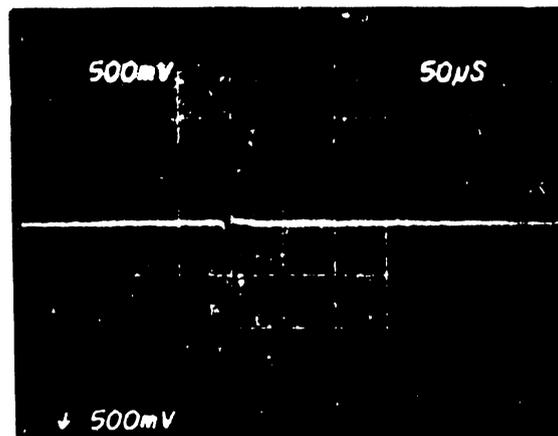

Figure 9 Index Timing
- c. Observe the timing between the start of the sweep and the first data pulse. This should be 200 usec  $\pm$  50 usec (Refer to Figure 9). If the timing is not within tolerance, continue on with this procedure. If correct, proceed to Paragraph 4.9, and perform the Write Protect Detector Adjustment procedure.